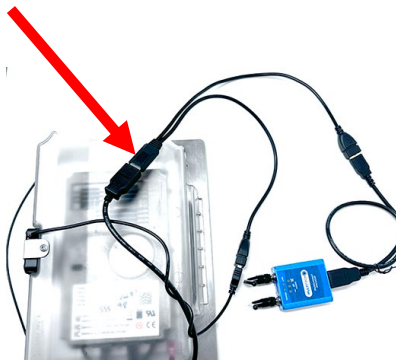

Figure 17
17. Connect to the USB plug on the rear of the Vat #1 controller. If a cooling housing is installed, connect a splitter between the USB cable modem and the cooling fan cable (see Figure 17).